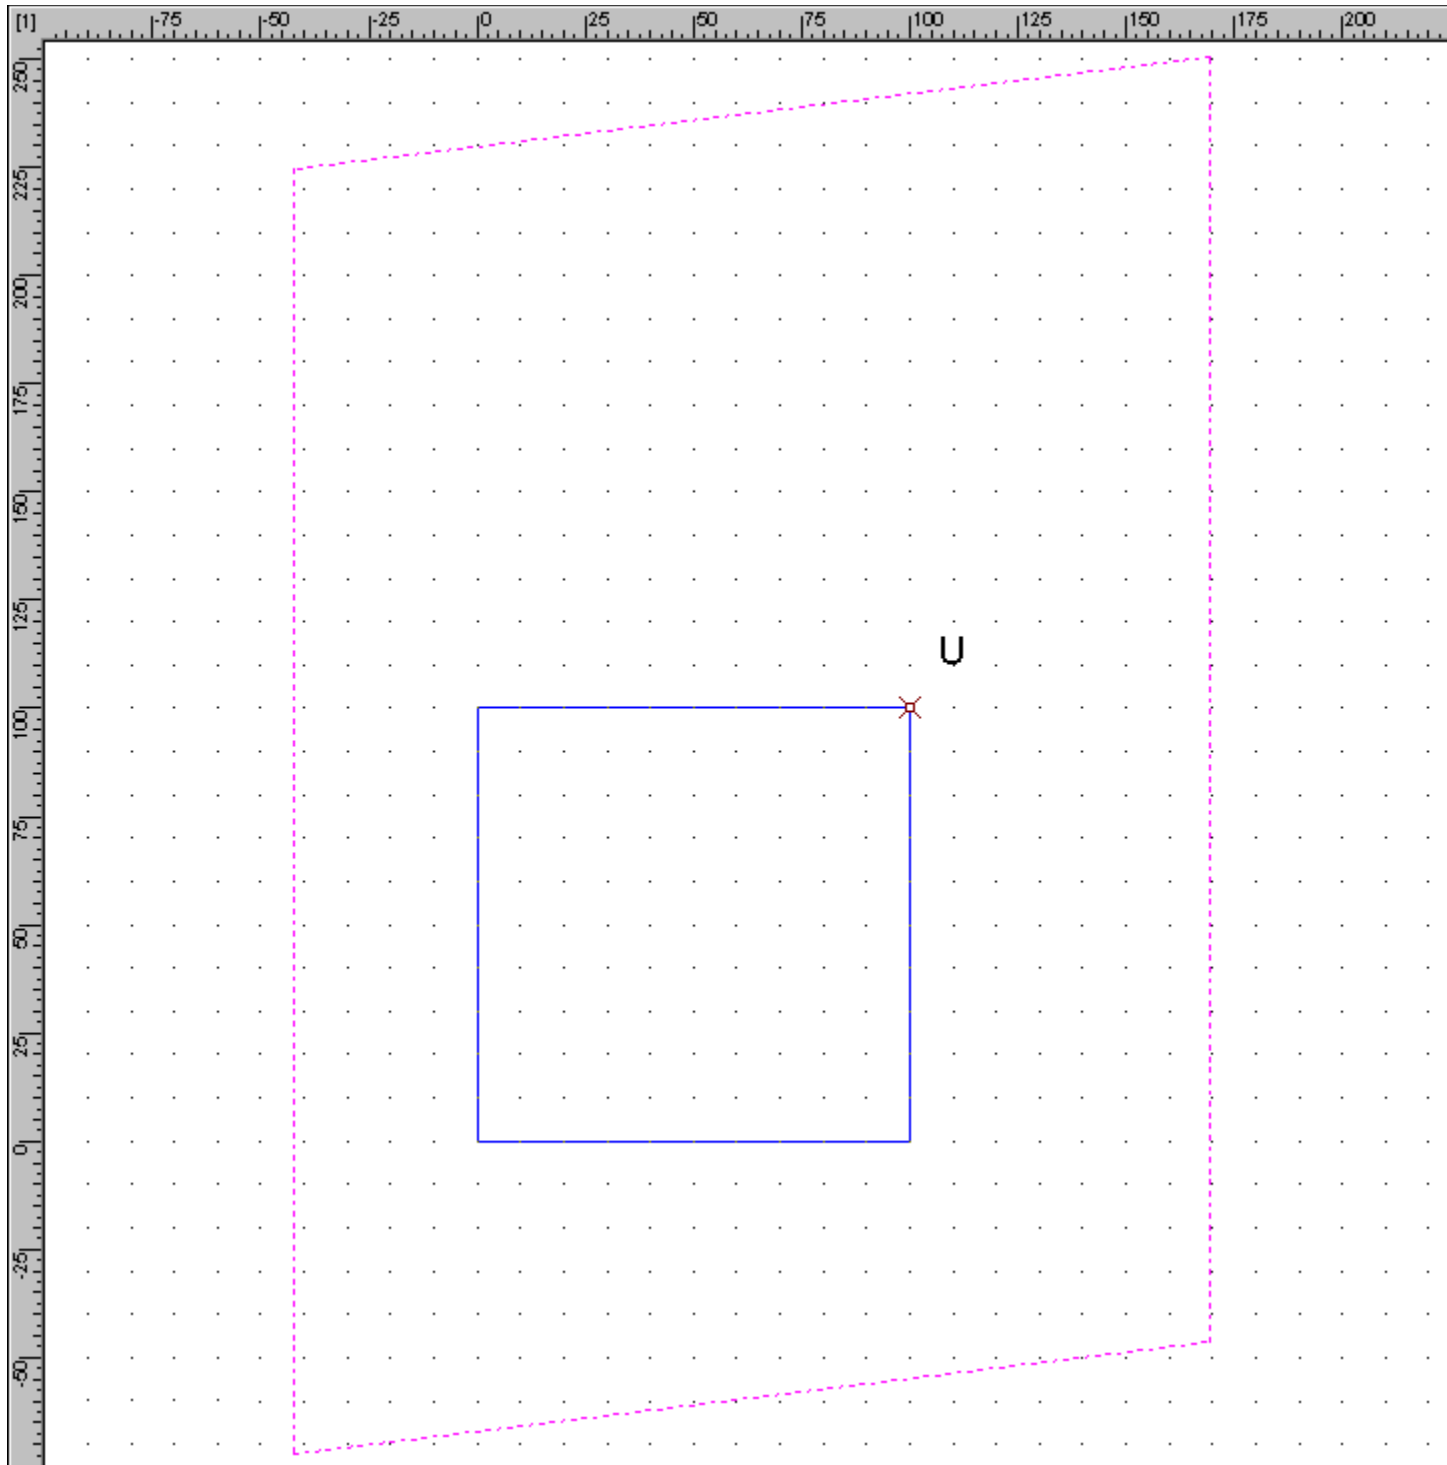

Figure 3
Construct the dimetric left view in the main window first (check that you have the correct coordinate system in the dialog called by right-clicking on the ruler or choosing Configuration>Coordinate Systems>Edit.) Begin by drawing a square with sides 100 mm (that is, 10 grid points) long, using the pen "0.5 mm\Solid Line Wide". Use Draw>Polygon>Parallelogram. to do this. To have the same origin for the grid in the other views, set the zero-point to the upper right corner of the square. Do this with Configuration>Coordinate System>Set Origin. Place a marking (U) on this point using Geometry>Markings (Figure 3).